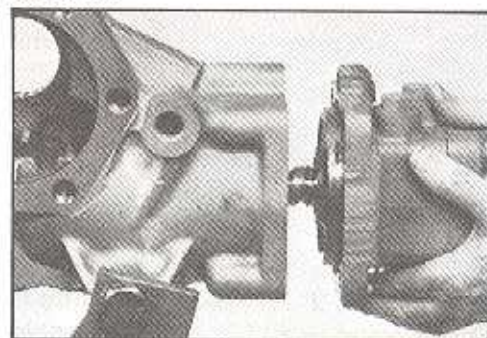

Figure 153
44. Align the bolt holes and oil transfer hole in the adaptor (20) with the bolt holes and oil transfer hole in the gear housing (47). The poppet adjusting screw (9) in the adaptor must align with poppet (33) and seal ring (19A) and (21) must be in place. Remove tape from worm shaft serrations and rotate worm shaft if required to position adaptor against housing. SEE FIGURE 153.